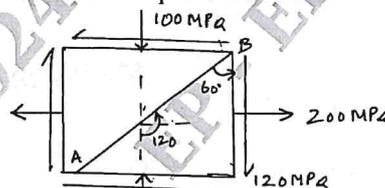

Fig.Q3(b)
b. At a point in a strained material, the stresses acting are shown in Fig.Q3(b). Determine